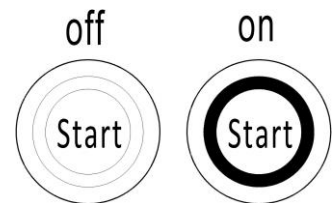

Fig.8: Button switch
Pull out the emergency button (Fig.1, 20), Press the button switch, and a green light will appear on the switch (Fig.8), type the password on pin-code panel and press \checkmark button to start the truck. Truck can also be activated with RFID access card.
PS E12N: Always lower the forks fully. Press the button, green LED ring is off (Fig.8), and press the emergency switch (20).